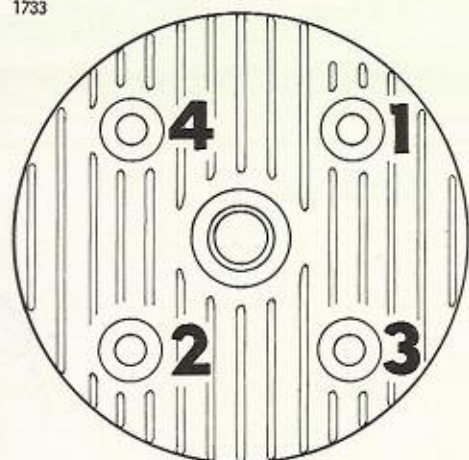

Fig. 5
5. Remove the distributor. To do this, first remove the distributor cover by unscrewing the 2 screws shown in Fig. 5. Then, using a distributor wrench, turn the distributor pulley clockwise until the distributor is loose. Remove the distributor from the engine and set it aside.
When refitting the cylinder head it is important to tighten in the correct sequence and use the specified torque to avoid overtightening and subsequent damage to the threads. Follow figure 5 for the sequence and refer to the list below for the recommended torques: